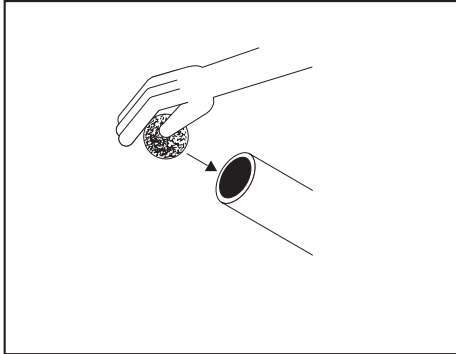

FIG.30
- Disconnect the mortar pump flow pipes (FIG.05-REF.4) and insert one or two sponges into the mouth of the mortar pipe (FIG.30). All of the material present in the piping can be used (projected or recovered in a bucket).